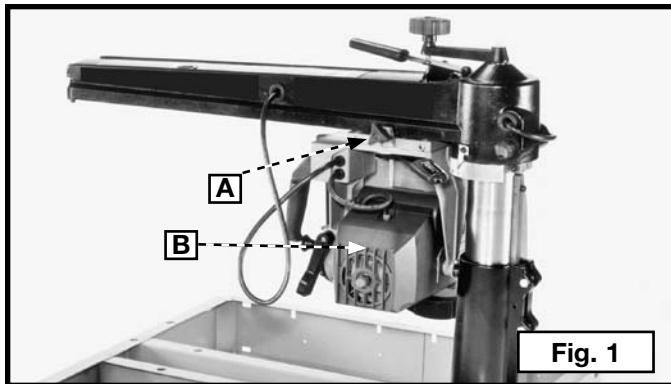

Fig. 1
1. Loosen the lock knob (A) Fig. 1, and move the cutting-head (B) to the rear position. Tighten the knob (A).